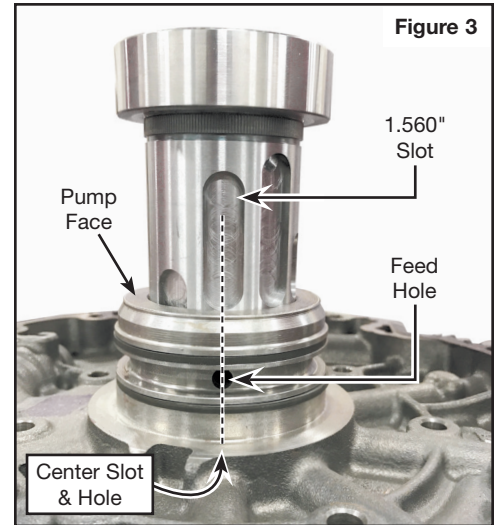

Figure 3
- Place Sonnax stator shaft into pump body, ensuring it is straight. Line up feed hole of pump body with 1.560" slot in stator (**Figure 3**).